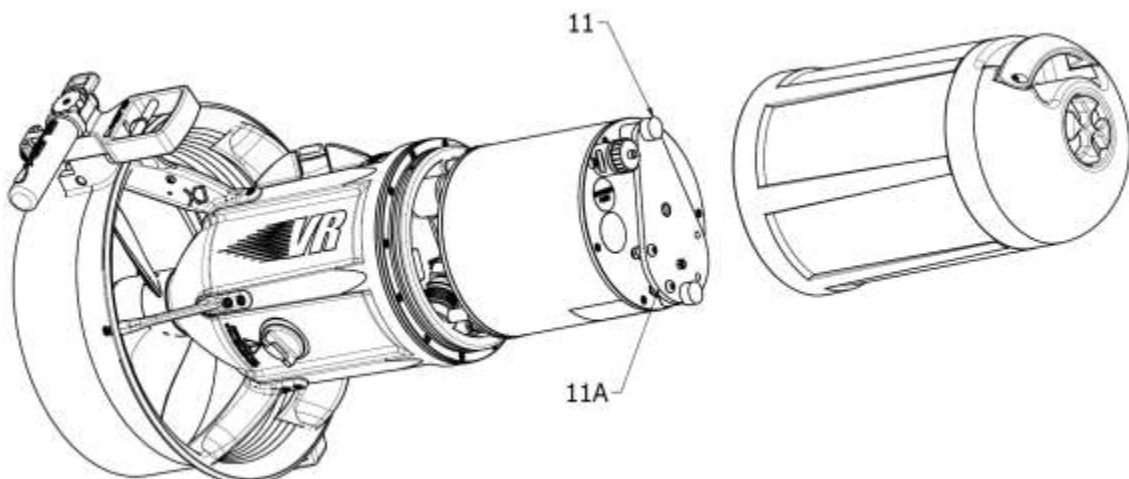

Fig.2
Once the nosecone has been removed, unscrew the knobs (11 - Fig.2 - 3), disconnect the connector (15) and remove the battery (14) by pulling it upwards.